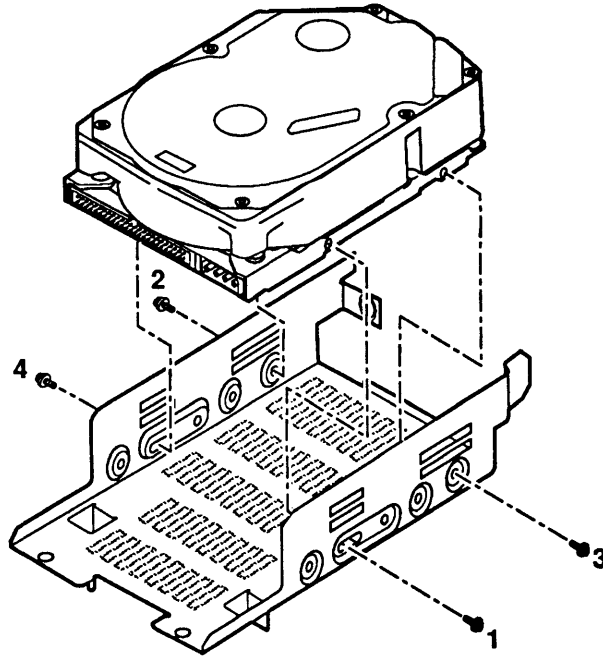
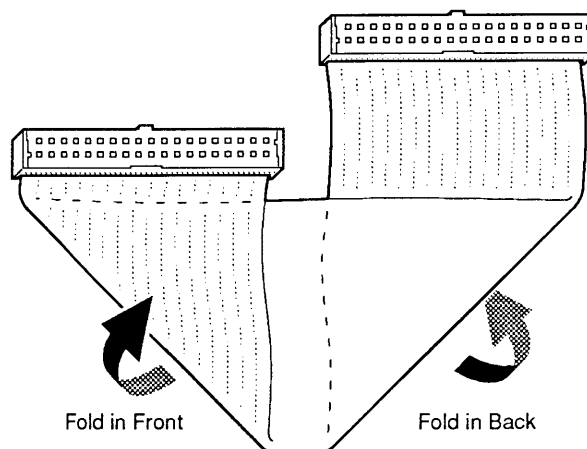

FIGURE 31
FIGURE 32
1. Remove the four screws on the lower sides of the carrier (Figure 31).
3. Tighten the screws in the sequence shown in Figure 31, torquing the four screws to 8.0 in-lbs.
Note: If you are using the carrier with low side-mounting holes (see Figure 31), the key on the hard disk SCSI connector will be inverted. To make the hard disk drive cable fit properly, fold one end of the cable forward and the other end backward into the shape shown in Figure 32.